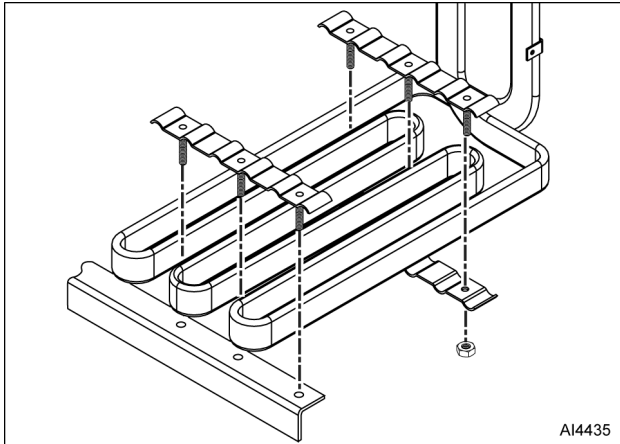

Fig. 15
- Remove nuts and clamps (Fig. 15) from element assembly.